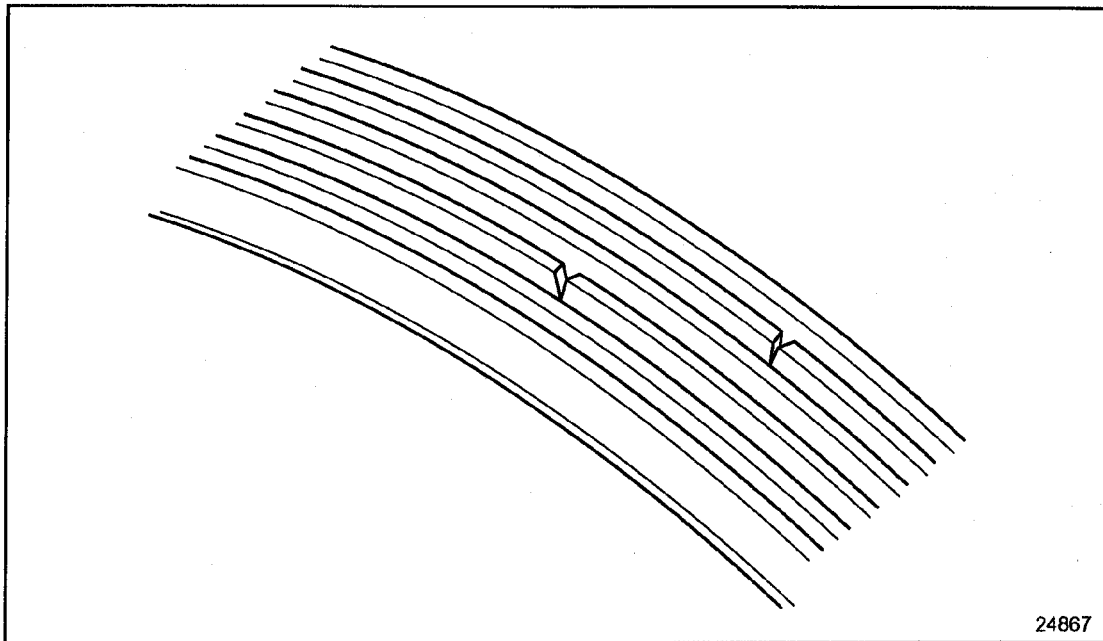

Figure 13-8 **Minor Rib Cracking**
- After an extended time in service, minor rib cracks may appear, usually one or two cracks per inch of belt. See Figure 13-8. This condition is considered normal.